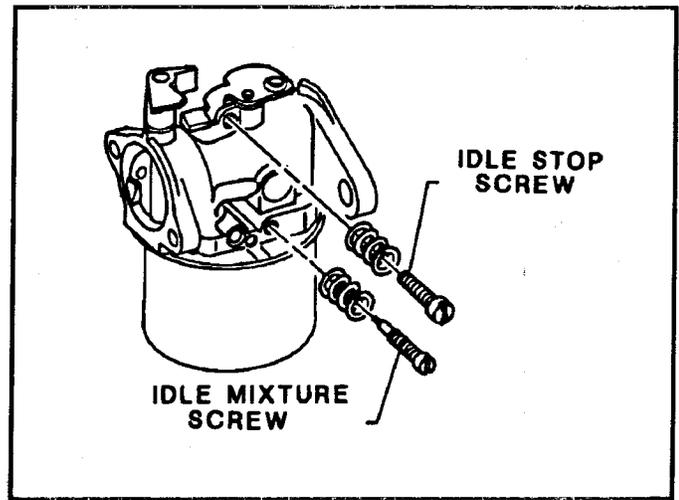

Figure 19
4. Remove the idle mixture screw and spring and the idle stop screw and spring. See Figure 19.